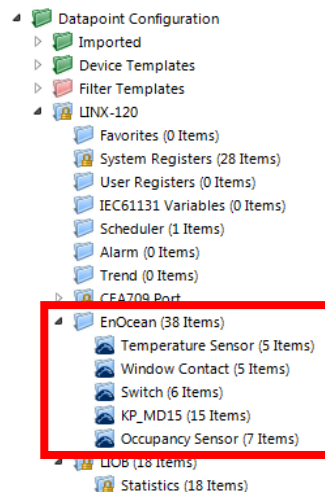

Figure 170: Data Point Manager with EnOcean device folders.
- The folder list (Figure 170),